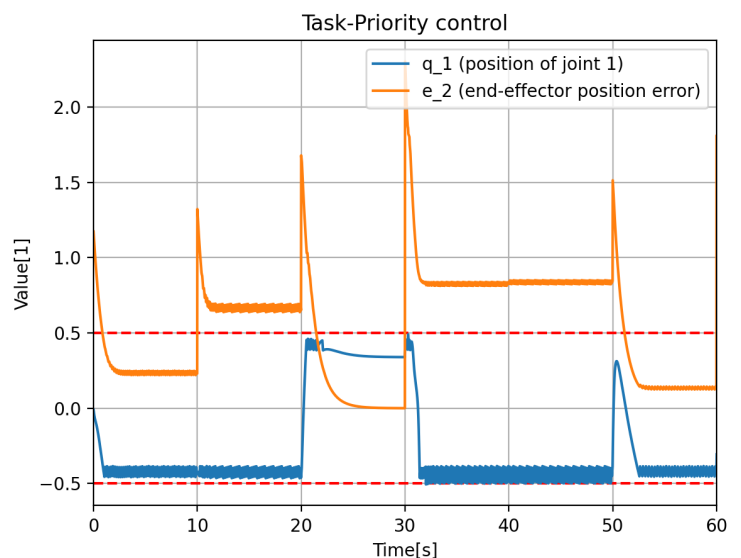

Fig 4. Evolution of the end-effector position error and the first joint position (including limits).
- 3) Plot presenting the evolution of end-effector position task error and position of the first joint over time, including joint limits (see Fig. 4).